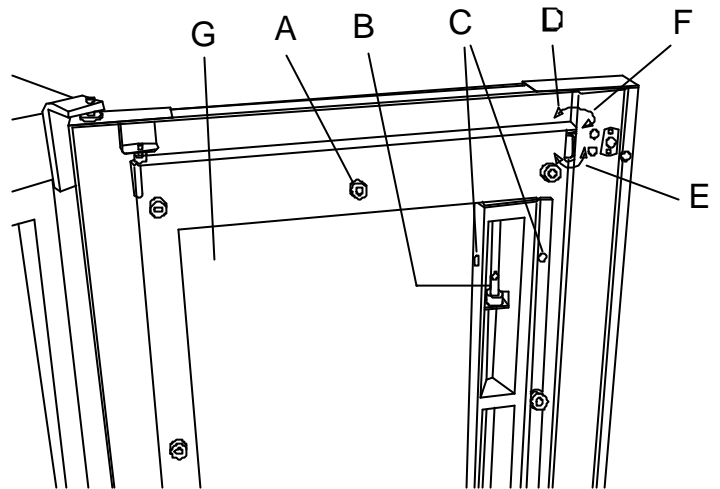

Figure 5d
- Open the inner glass by unhooking the two blocks (fig. 5d item D) located on the handle side, and pivot it.
The oven interior lighting lamps are protected by a glass that must be removed in order to access them. Loosen the screws (fig. 5d item C, only partially shown in the figure) located on the standard (closing side) that secure the protection and extract the glass. Now you can have direct access to the lamps. Being halogen lamps, they should be replaced very carefully and strictly abiding by the directions given by the lamp manufacturer.